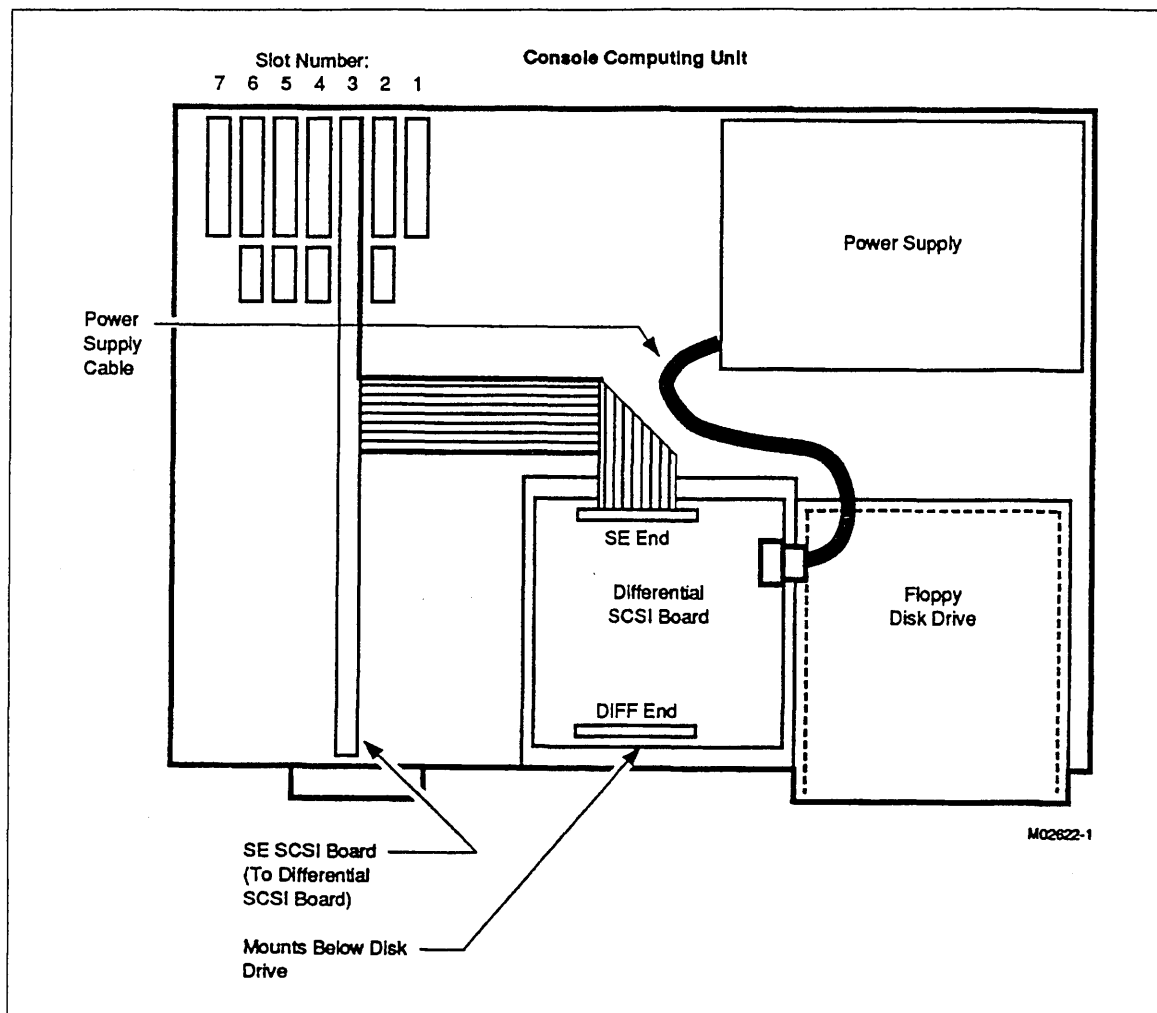

Figure 7-5. Connections for SE End of Differential SCSI Board
Remove and replace the differential Small Computer Systems Interface (SCSI) board within the CCU of a CC598-A console according to the following procedure (see figures 7-5 and 7-6).
- ___ 9. Appropriately mark the two ribbon cables as either single-ended and differential-ended for later reassembly (see figures 7-5 and 7-6), then remove both cables (note that the colored stripe on the ribbon cable aligns with pin 1 of the connector). Disconnect the power cable connections.
- ___ a. To remove the SE SCSI Board from card slot 3, remove the Phillips screw securing the SE SCSI board to card slot 3, then lift the board out of the CCU. Disconnect the ribbon cable connected to the SE end of the differential SCSI board (see figure 7-5). Note that the colored stripe on the ribbon cable aligns with pin 1 of the connector.